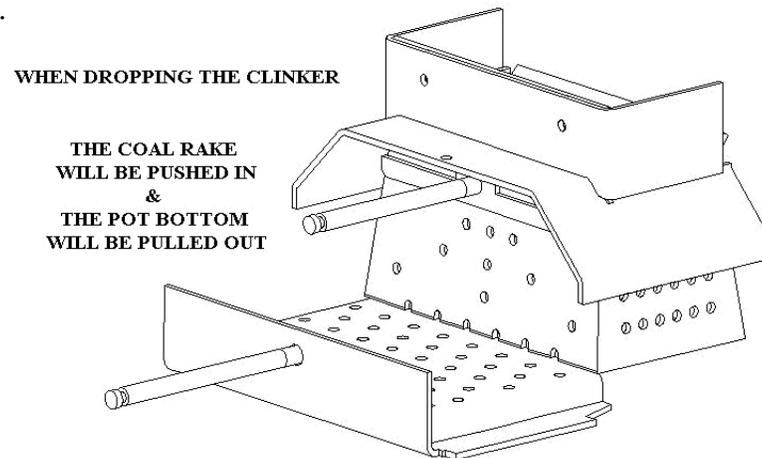

Figure 25
**Step 3 - The Slide-Out Bottom.** (See figure 25) Now you are ready to drop the clinker from the burn pot. Pull the bottom out in one quick motion and let the clinker drop into the ash pan. Quickly push the bottom in again. To pull out the slide bottom use the Rod Handle tool that came with the unit.